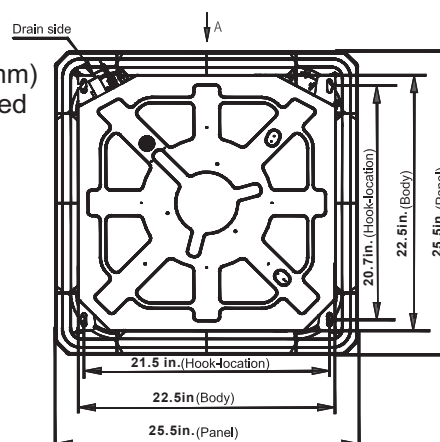

Fig.15
- a. Please cut a square hole of 24 x 24 inches in the ceiling according to the shape of the installation paper board. (Refer to Fig.15 & 16)